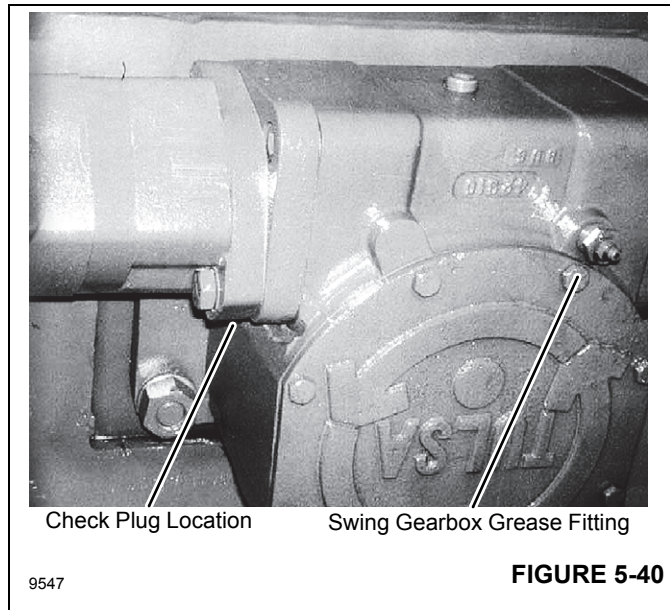

FIGURE 5-40
2. Clean the grease fitting and check plug (Figure 5-40).